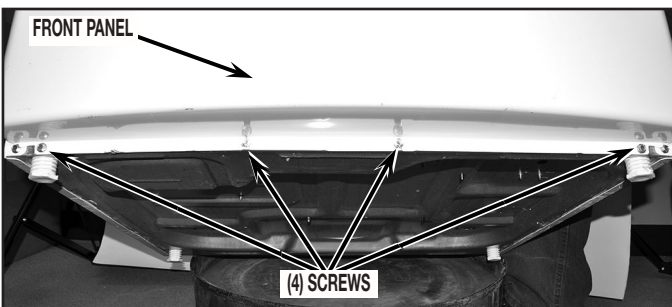

FIGURE 7
7. Remove front panel by first removing four (4) screws from bottom of front panel as shown in *Figure 7*.